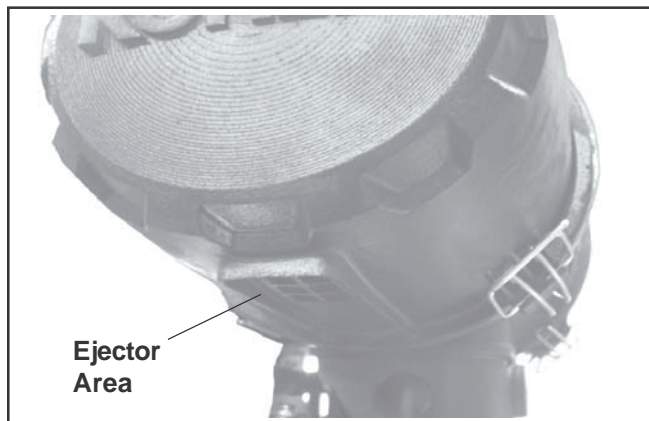

Figure 4-4. Ejector Area.
5. Check all parts for wear, cracks, or damage, and that ejector area is clean. See Figure 4-4. Replace any damaged components.